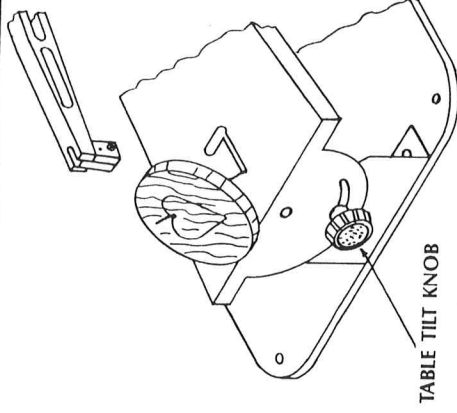

Fig. 3
Step 6: Tilt the blade forward, to the front of the narrow slot in the table (see fig. 3).